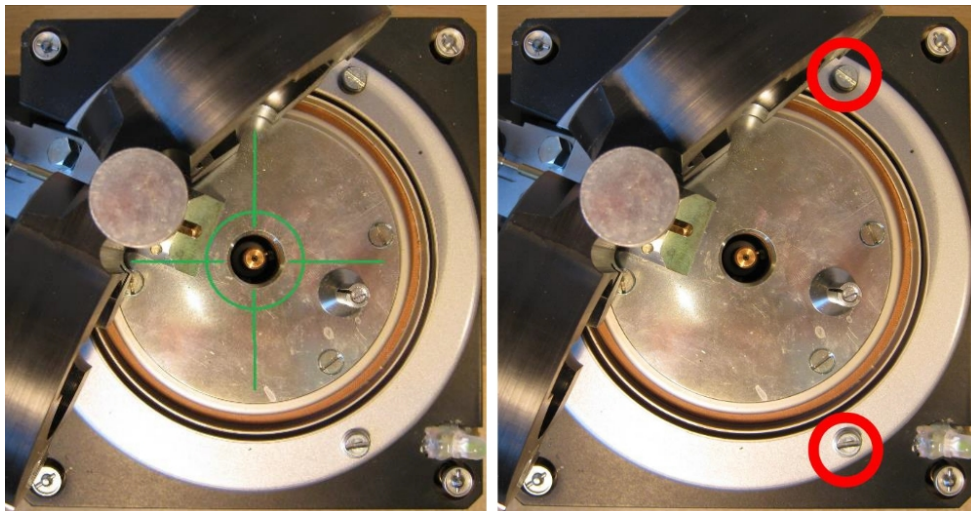

Figure 21: Setting the coils coaxiality
- Remove a specimen holder and check if the axis of main shaft is coaxial with the hole in the circle plate, as shown in Fig. 21, left. If the main shaft touches the hole, the holder can hit the coils or the mechanical system can vibrate.
- Loose three screws marked by the red circles Fig. 21 right (only two are visible), and move entire coil system to get the main shaft in the center of the hole. Then tighten all three screws.